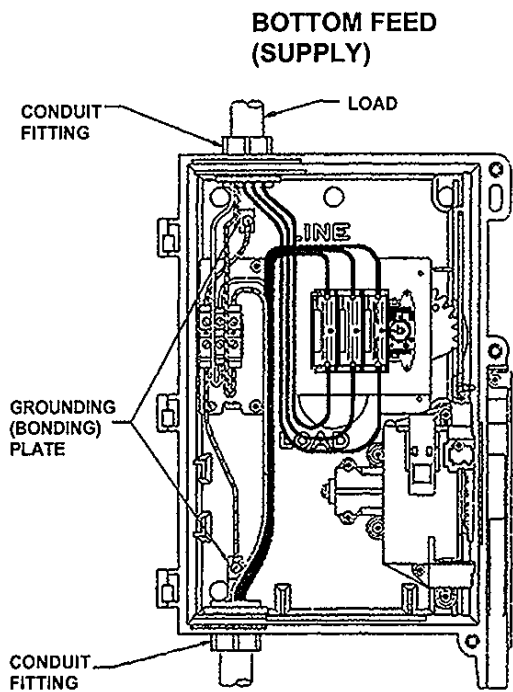

FIG. M3
B. **BOTTOM AND BACK FEED:** See figures M3 and M4.